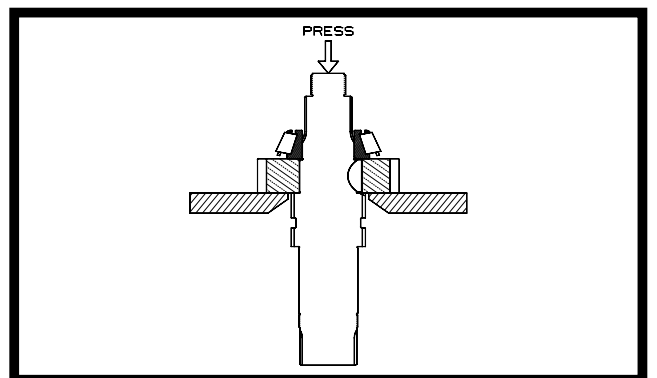

Figure 4.14
- Invert the shaft assembly in the press so that the remaining gear is supported. See Figure 4.14. Remove the bearing cone assembly and the gear. Remove the woodruff key if necessary.